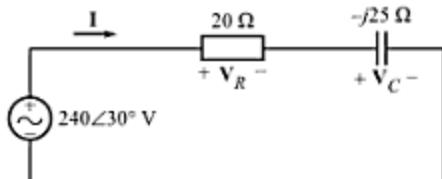

Fig. C-61
- C-92. For the circuit shown in Fig. C-61, find \mathbf{I} , \mathbf{V}_R and \mathbf{V}_C , and the corresponding sinusoidal quantities if the frequency is 50 Hz . Also find the average power delivered by the source.